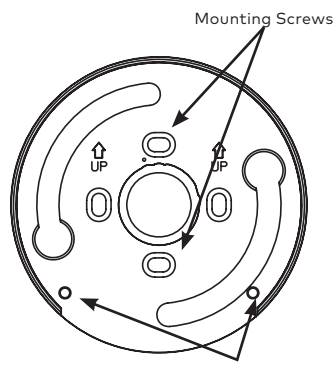

Figure 6
1. Mount the dial plate (p/n 3752) centered on the through hole (Figure 6). Attach the dial plate with the two mounting screws US 8-32 (US) or the M4-0.7 (metric).
1. Mount the dial plate (p/n 3752) centered on the through hole (Figure 6). Attach the dial plate with the two mounting screws US 8-32 or the M4-0.7 (metric) making sure to rotate the dial plate counter clockwise prior to tightening down.